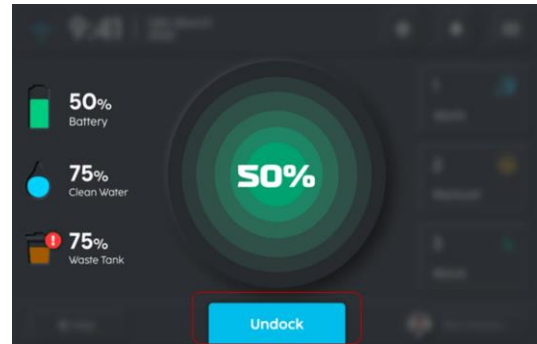

FIGURE 12-13
4. Once the Docking process is completed the screen will turn green to reflect battery charge status (Fig. 12-13).
5. To undock the robot from the station, select the blue 'Undock' button (Fig. 12-13 and 12-14).